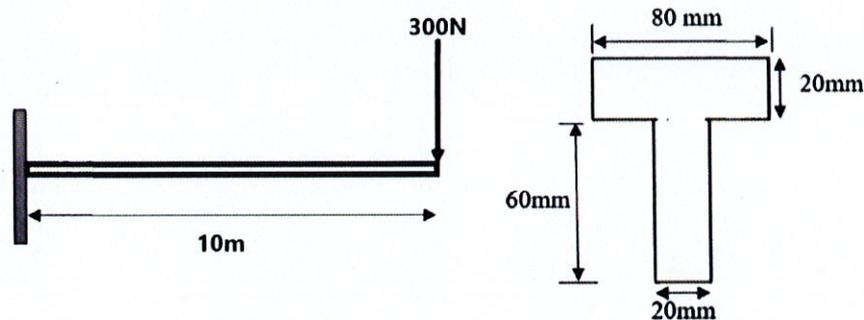

Figure 3 (b) / Rajah 3 (b)
- CLO1 (b) A cantilever T shape beam 10 m long supports a load of 300 N at the end of beam as illustrated in Figure 3 (b). Calculate: